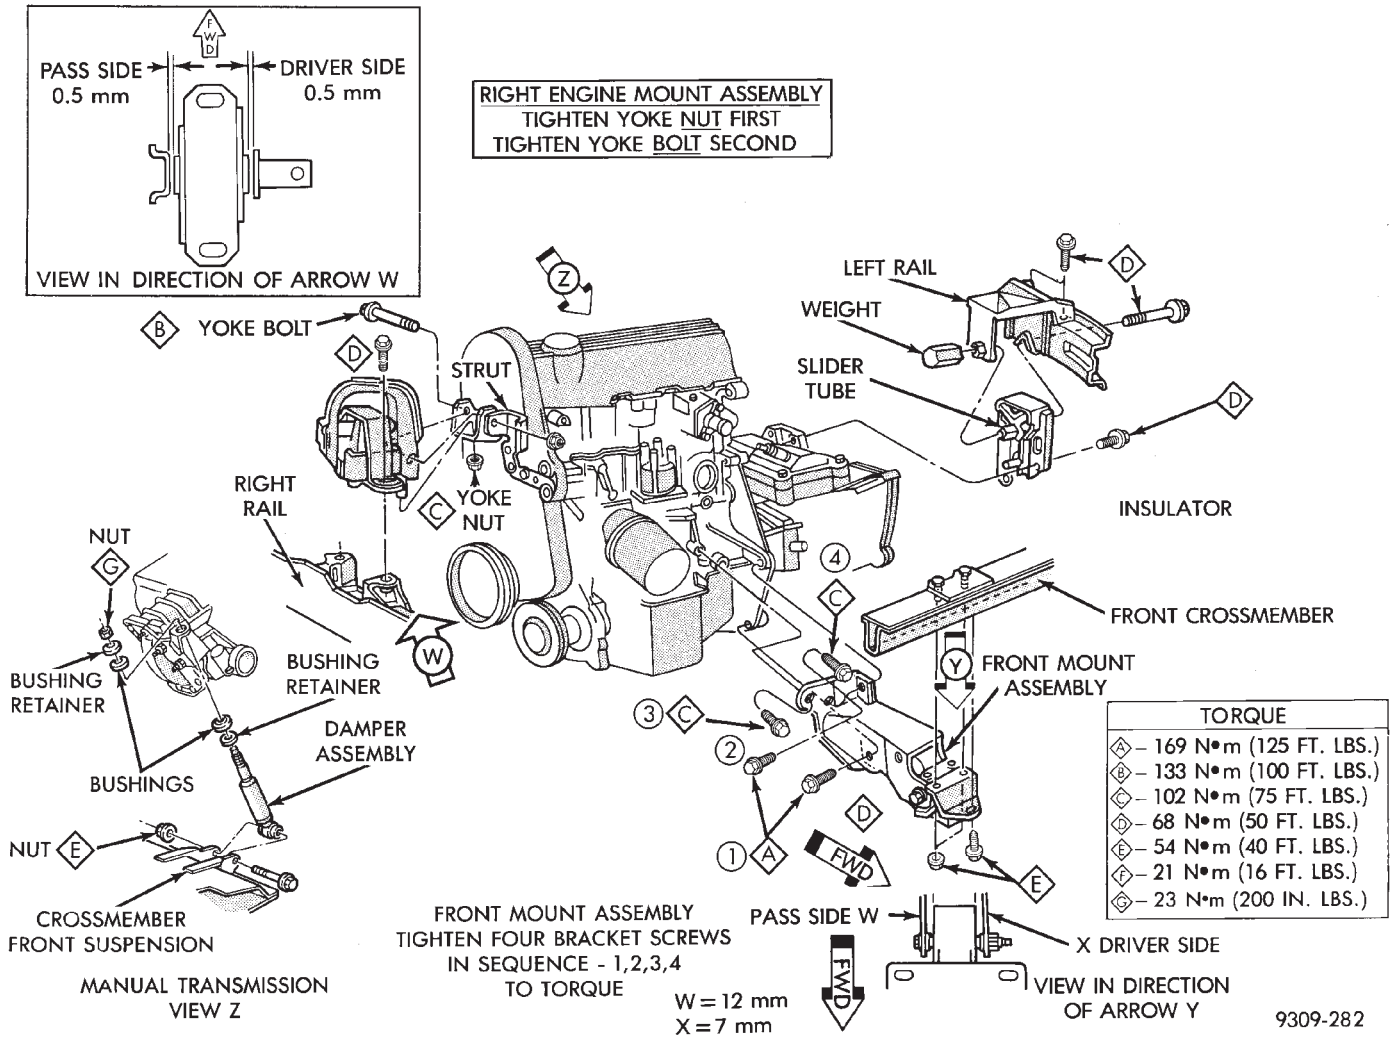

Fig. 3 Engine Mounting
(1) Remove the right engine mount insulator vertical fasteners from frame rail.
(2) Remove the load on the engine motor mounts by carefully supporting the engine and transmission assembly with a floor jack.
(3) Remove the thru bolt from the insulator assembly. Remove insulator.
(4) Reverse removal procedure for installation. Refer to (Fig. 3) for bolt tightening specifications.
(1) Support the engine and transmission assembly with a floor jack so it will not rotate.
(2) Remove the thru bolt from the insulator and front crossmember mounting bracket.
(3) Remove the front engine mount bracket to front crossmember screws and nuts. Remove the insulator assembly.
(5) Engine mount adjustment, Refer to Engine Mount Insulator Adjustment of this section.
(1) Raise vehicle on hoist and remove left front wheel.
(2) Remove inter splash shield.
(3) Support the transmission with a transmission jack.
(4) Remove the insulator thru bolt from the mount.
(5) Remove the transmission mount fasteners and remove mount.
(6) Reverse removal procedure for installation. Refer to (Fig. 3) for bolt tightening specifications.
(7) Engine mount adjustment, Refer to Engine Mount Insulator Adjustment of this section.